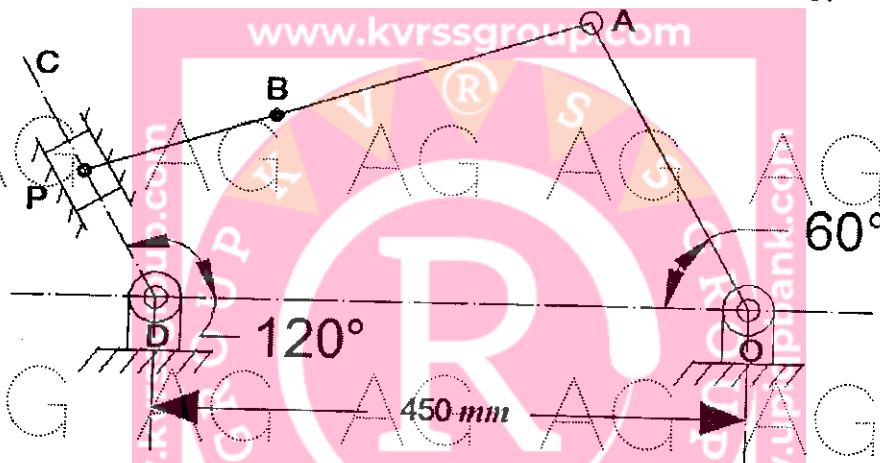

Figure: 1
5. In the slider-crank mechanism shown in Figure 1, the block P reciprocates along the fixed line CD. The crank OA rotates *clockwise* at a uniform speed of 150 rpm. The dimensions of the links (in mm) are: OA=AB = 250; AP = 400; For the given configuration, find the velocity and acceleration of the block P. [10]